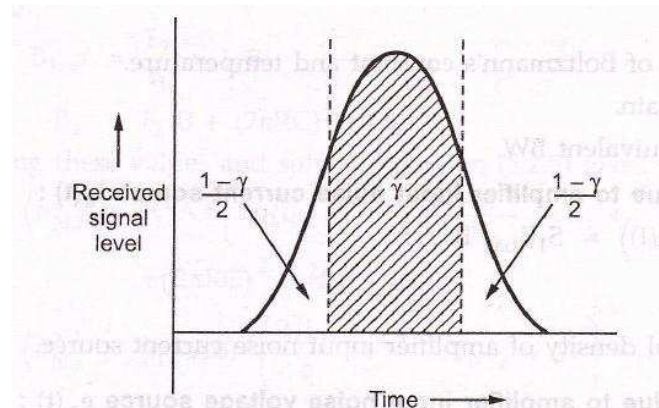

Fig. 5.2.1 Pulse spreading in adjacent time slot
- x Intersymbol interference (ISI) also contributes to error which is causing from pulse spreading. Because of pulse spreading energy of a pulse spreads into neighbouring time slots, results in an interfering signal. Fig. 5.2.1 shows ISI.
- x Energy in appropriate time slot is  $\gamma$ . The total energy in adjacent slots is  $1 - \gamma$  as shown in the Fig. 5.2.1.